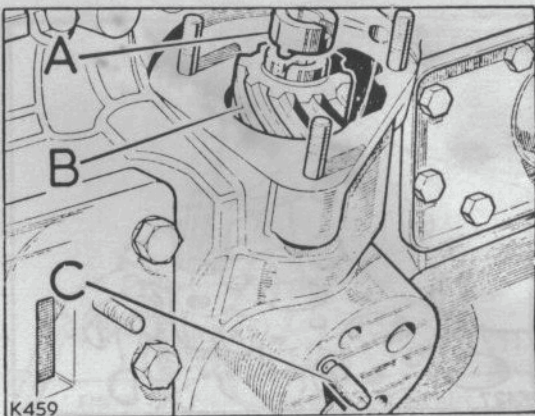

FIG 1:15 Distributor removal, 2½ litre
- 7 Remove the tappet locating bolts (D in **FIG 1:18**), then hook the tappet slides and rollers out. Lastly remove the tappet guides as shown in **FIG 1:19**.
Key to Fig 1:15